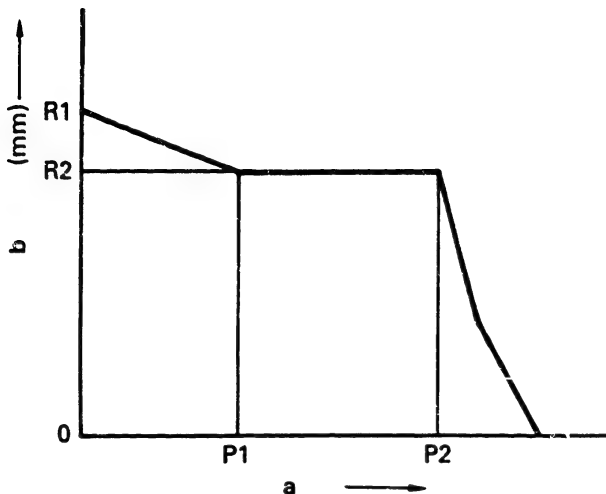

Fig. 80
- 1. When the performance of the pneumatic governor is as shown in Fig. 80:
- a. Maintain pump speed at 500 rpm and reduce the pressure of the pneumatic governor's negative pressure chamber to P_2 mmAq (Fig. 80).
- b. Adjust the cap so that the control rack moves 0.01 to 0.05 mm from position R2 in the "fuel-decrease" direction, and secure with the nut. (Figs. 80 and 81)